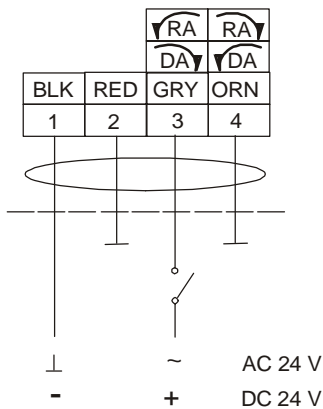

Figure 9: Control Wiring Diagrams
See Figures 9 and 10 for proper wiring of the M9206-AGx-2S Series Electric Spring Return Actuator.
The M9206-AGx-2S Series Floating Electric Spring Return Actuators are factory set for Direct Acting (DA) operation. A control input drives the actuator. To reverse the rotation, either move the mode selection switch from Direct Acting (DA) to Reverse Acting (RA), or reverse the control input wiring to GRY 3 and ORN 4 (as illustrated in Figure 9).